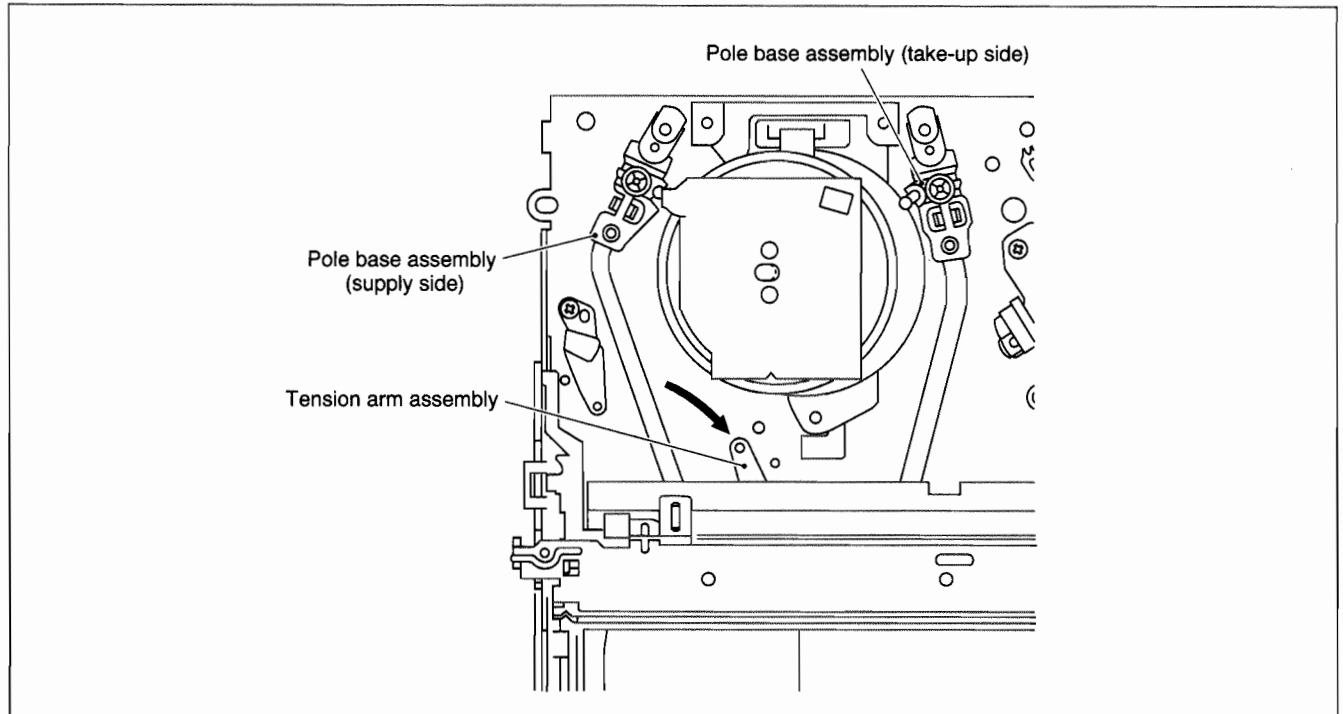

Fig. 2-1-3
- (1) Unplug the power cable and remove the top cover, front panel assembly and others so that the mechanism assembly is visible. (See 1.3 DISASSEMBLY/ASSEMBLY METHOD.)
- (2) While keeping the tension arm assembly of the mechanism assembly free from tension, pull the tape on the pole base assembly (supply or take-up side) out of the guide roller. (See Fig.2-1-3.)